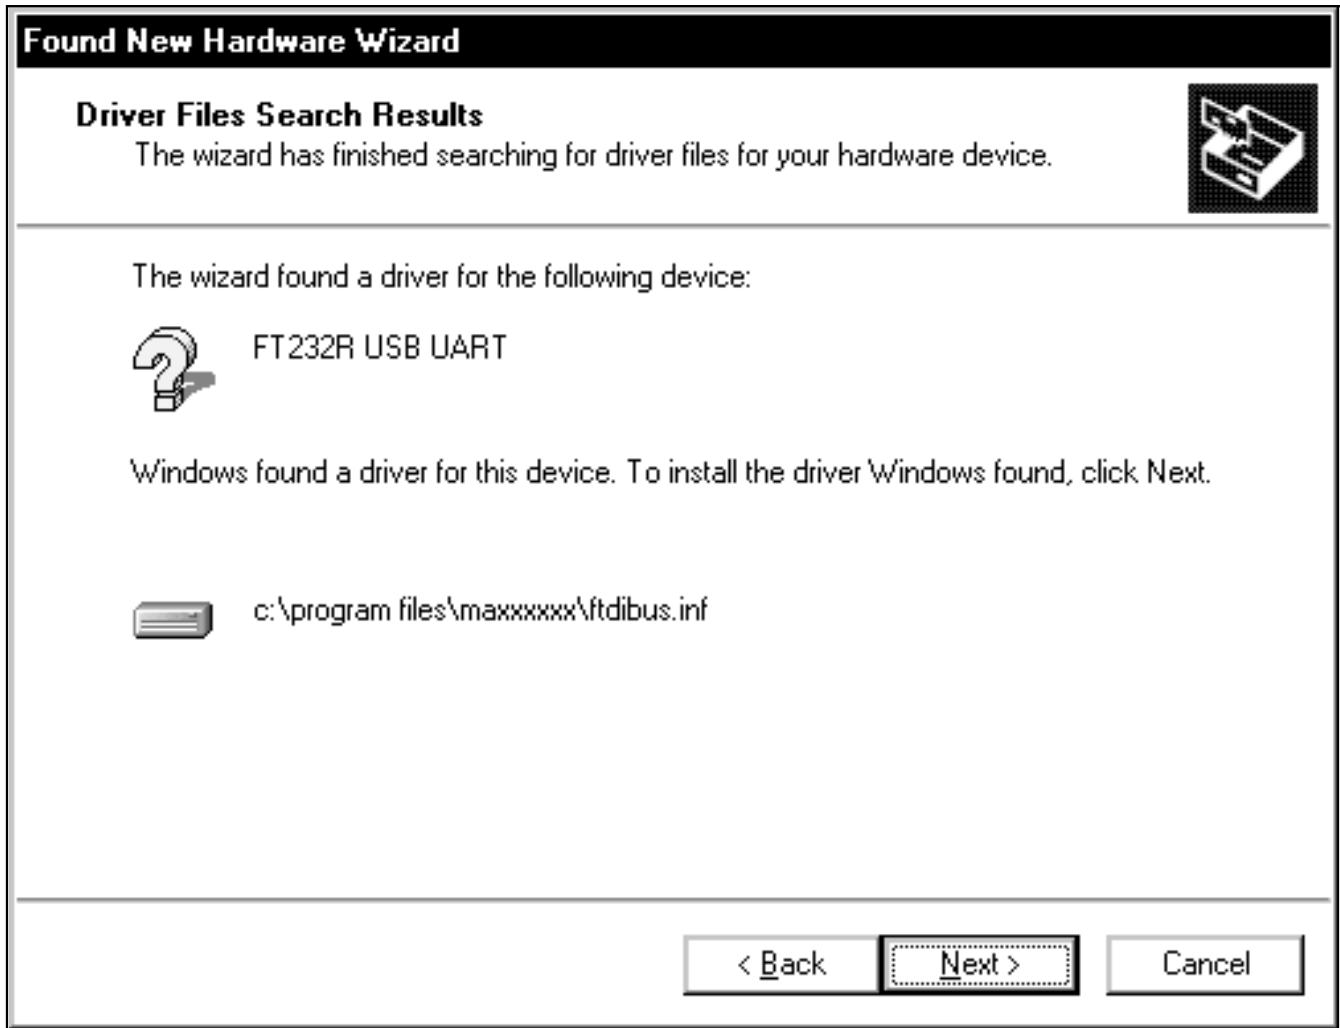

Figure 14. Windows 2000: **Found New Hardware Wizard | Driver Files Search Results** Window
- 6) The **Found New Hardware Wizard | Driver Files Search Results** window is shown in Figure 14. Press the **Next** button after the wizard finds the driver.